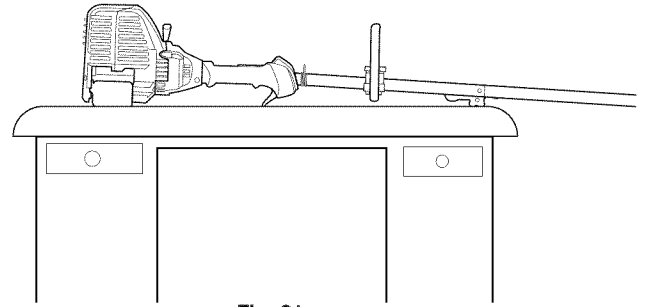

Fig. 21
2. **Set the unit on a flat, level surface**, such as a workbench or table. The cutting head shield should hang over the edge so that the engine is level (Fig. 21).